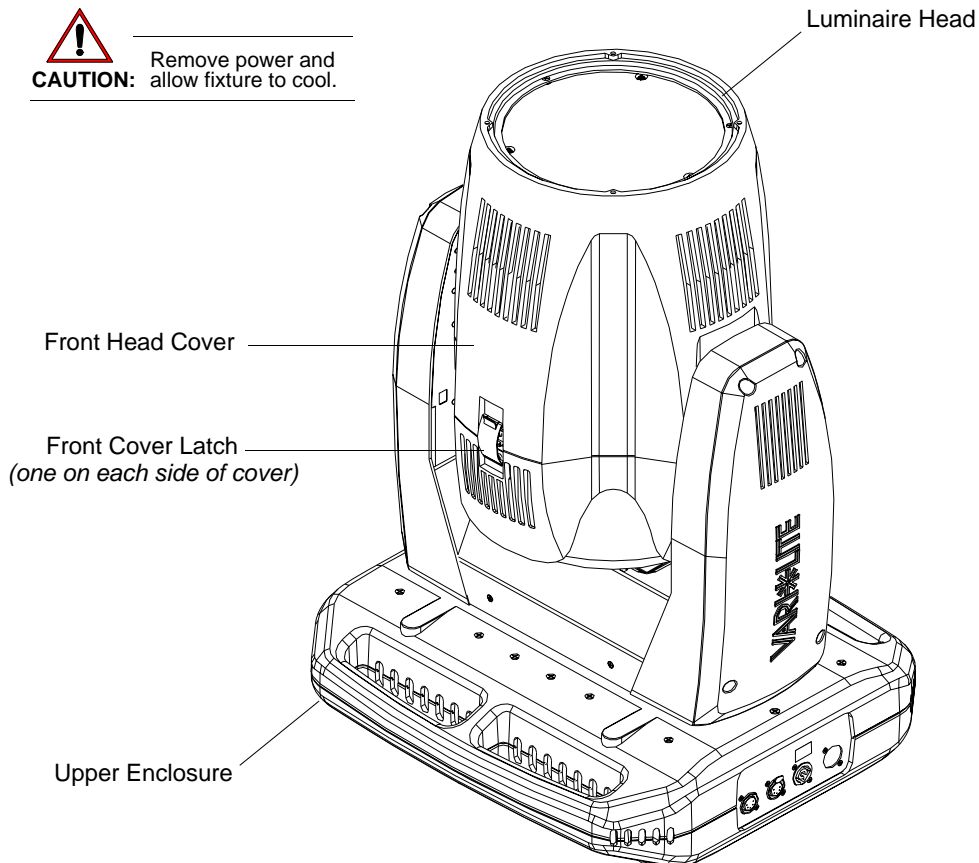

Figure 2-22: VLX Wash Luminaire
Step 2. Carefully set luminaire on upper enclosure, rotate head as shown in Figure 2-22, and engage tilt lock.